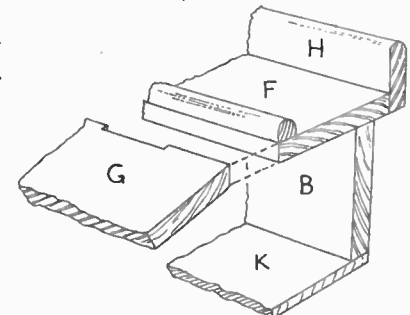

Fig. 5—Where the top is hinged
from warping, glue and screw two ledges as (J) in Figs. 1 and 2 to the end edges. Next cut two shallow recesses to receive both flaps of a pair of 1in. hinges as seen in Fig. 5. Now remove the back rail (F) from its temporary fixing, and connect up with the lid. Refix the top rail with glue and screws, noting how the ledges along the edges make a close fit to the front pair of legs. Finish along the back of the desk with the narrow rail (H) which must be rounded off along its top edge as seen in the section Fig. 1 and in detail Fig. 5.